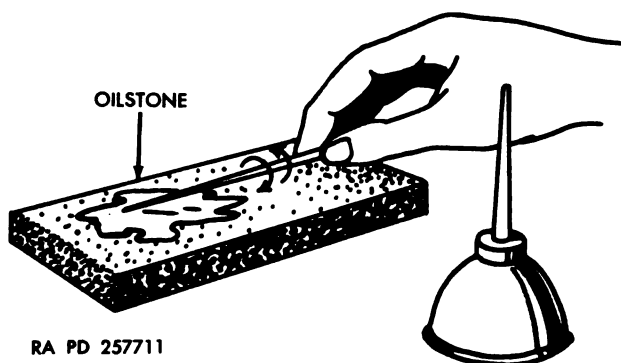

Figure 241. Sharpening cone pointed awl.
c. A cone pointed awl that has been ground properly should be sharpened by stroking it on an oilstone. Rotate awl slightly before each stroke (fig. 241). Flat pointed awls are